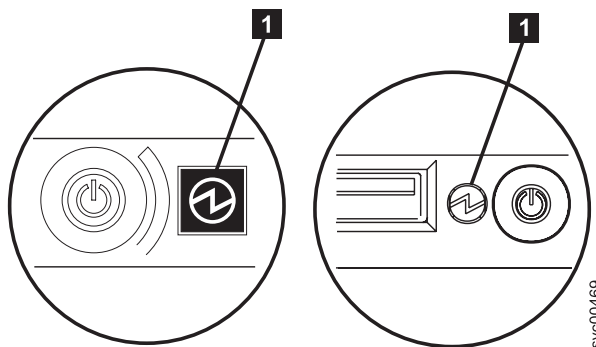

Figure 77. Power LED on the SAN Volume Controller models 2145-8G4 and 2145-8F4 or 2145-8F2 operator-information panel
**Is the power LED on the operator-information panel continuously illuminated?** Figure 77 shows the location of the power LED **1** on the operator-information panel.